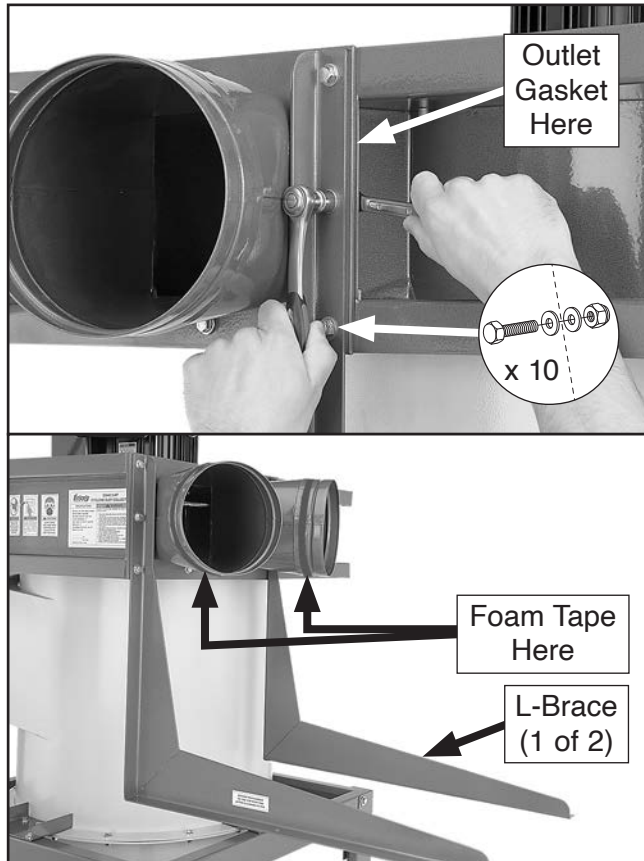

Figure 21. Outlet ports, foam tape, and filter L-braces installed on blower housing.
15. Place outlet gasket between motor/blower housing and outlet port, then attach outlet port and filter L-braces to housing, as shown in **Figure 21**, using (10) $\frac{5}{16}$ "-18 x 1" hex bolts, (20) $\frac{5}{16}$ " flat washers, and (10) $\frac{5}{16}$ "-18 hex nuts.
16. Apply 3 x 15 x 700mm foam tape to outside lip of each outlet port, as shown in **Figure 21**.